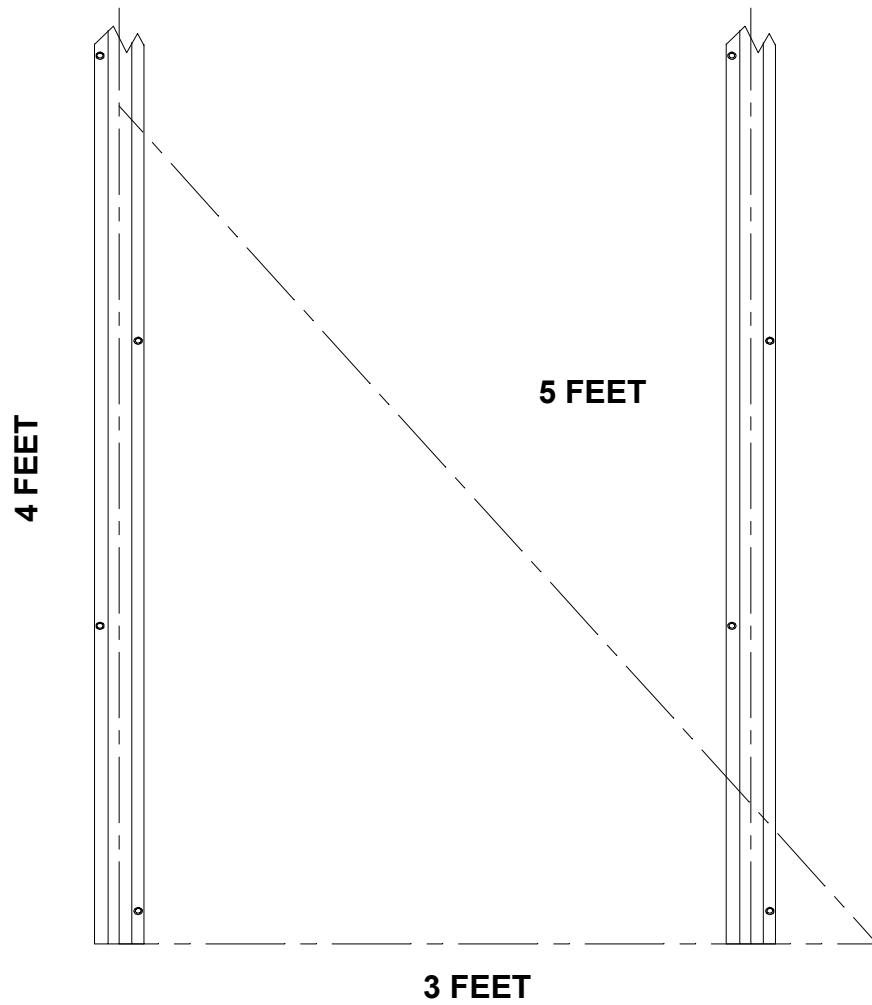

Figure 2
1. Before beginning rail installation a given reference point (datum) **MUST BE** established. Rails **MUST BE** laid out and installed square to the established datum. This is best obtained by using the 3-4-5 Triangulation Method. (See Figure 2)
1. Before beginning twin ramp installation a given reference point (datum) **MUST BE** established. The twin ramp channel(s) **MUST BE** laid out and installed square to the established datum. This is best obtained by using the 3-4-5 Triangulation Method. (See Figure 2)